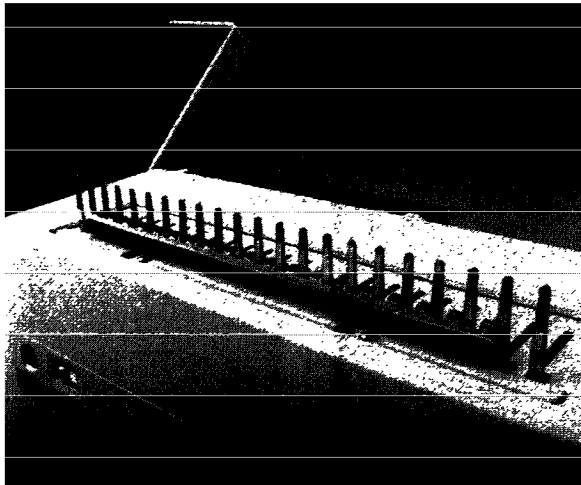

Figure 4.9
2. Place the correct size Cerlox binding element on the back side of the Binding Head behind the Vertical Holding Fingers. The plastic rings will be held between the Vertical Holding Fingers. Be sure the open side of the binding element is on top and facing you. Also check that the entire length of the binding element is in contact with the back surface of the Vertical Holding Fingers (Figure 4.9).